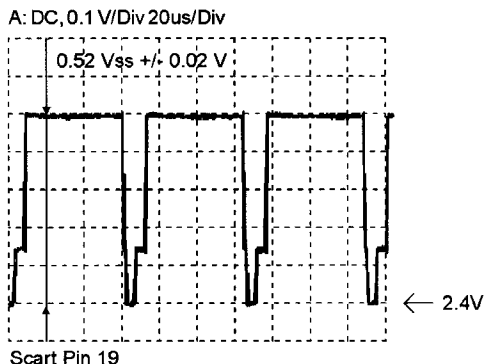

Fig. 1
- Adjust resistor 3010 until the amplitude of the output voltage is  $0.52 V_{pp} \pm 0.02 V_{pp}$  (Fig.1).